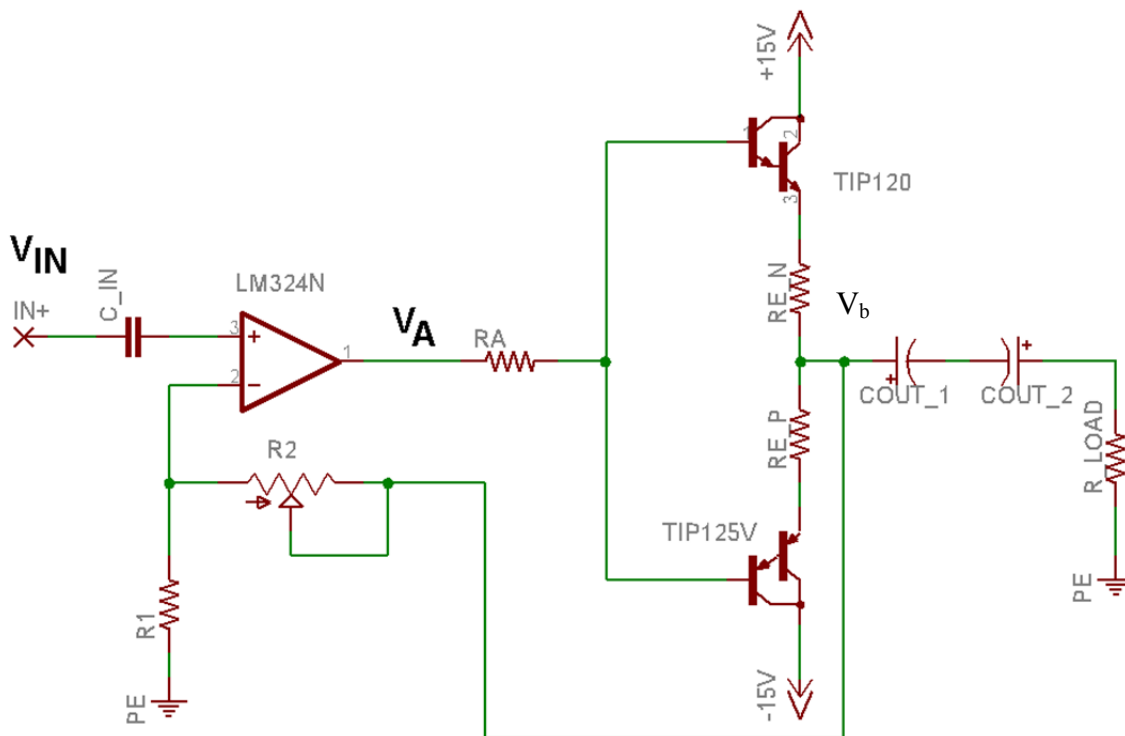

Figure 4 Class B audio amplifier operating closed-loop
A closed-loop Class B configuration is shown in Figure 4. Output voltage  $V_b$  is fed back to the inverting input of the OPAMP. The high-gain negative feedback significantly reduces the crossover distortion of voltage  $V_b$ .
5. Modify the circuit to include the voltage follower within the opamp feedback loop as shown in Figure 4.